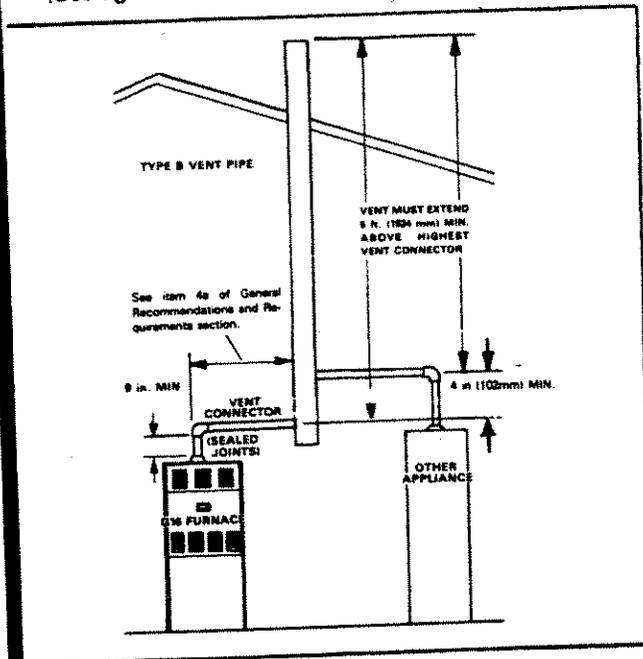

FIGURE 1
- 2 - Vent connector pipe must be at least as large as the 3-inch (76 mm) flue outlet on the furnace. No reduction in size is permissible. A 9-inch minimum length of vent connector pipe must be run from the furnace flue outlet to the first 90° elbow (See figure 1).
than the highest vent connection point (See figure 1). Single-wall pipe and type B-1, double-wall pipe used as vertical vent do not need to be sealed.
Vertical Venting (See Figure 1)
IMPORTANT - When G16 venting is shared with other gas appliances, vent connectors for all other appliances must be joined to the vent at least 4 in. (102 mm) above the highest G16 or G16R connection (See figure 1). If G16 is vented with another G16 or G16R unit, there must be a four-inch (102 mm) vertical separation between the vent connectors. Do not attach a G16 or G16R vent connector to the bottom of the common vent.
CAUTION - In a common venting situation, horizontal vent pipe runs are not permissible beyond the point that the vent connectors reach the vent pipe. See figure 1 for correct application.